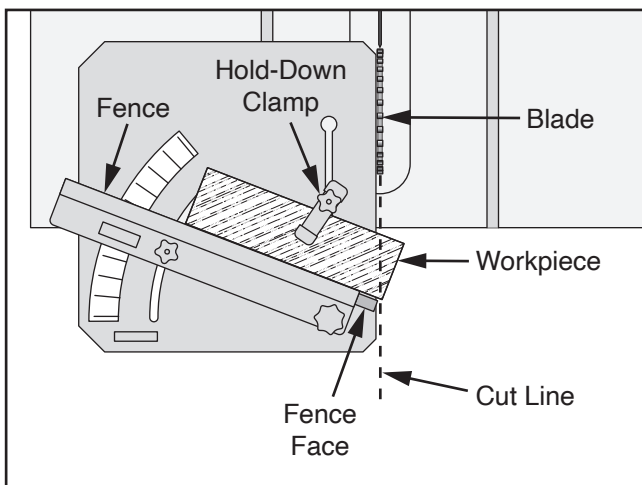

Figure 22. Workpiece prepared for cut (blade guard removed for clarity).
3. Adjust fence face in fence so fence face extends to cut line without contacting blade (see **Figure 22**).
4. Place workpiece on sled against fence and align cut line with blade kerf, then secure workpiece with hold-down (see **Figure 22**).